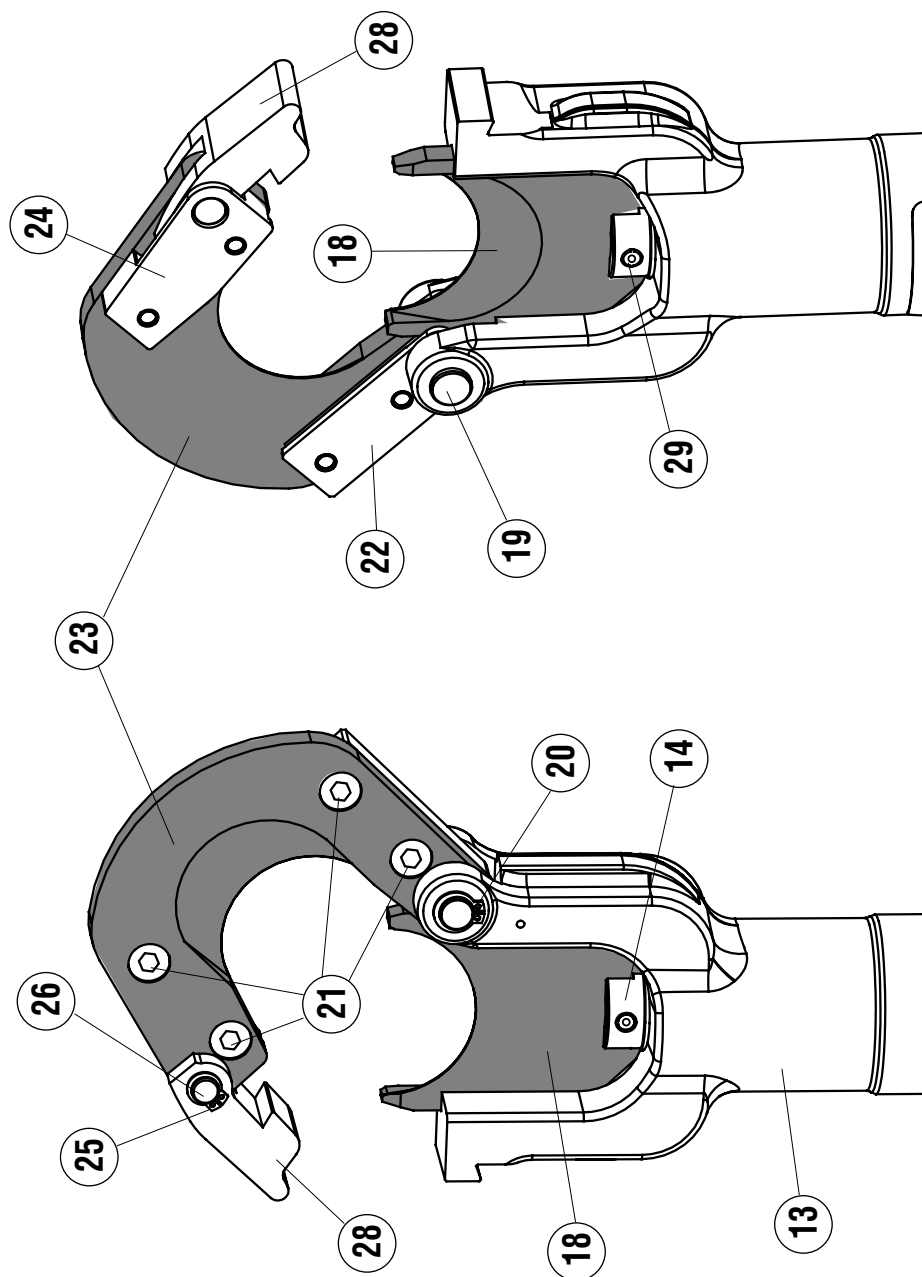

FIG. 3
5. BLADE REPLACEMENT (Ref. to Fig. 3)